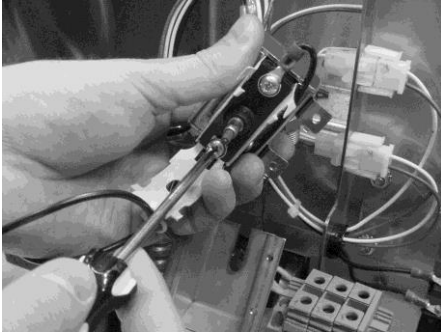

Figure 2-66
4. Pull back cardboard cover and remove the two electrical wires from the high temperature limit control. Figure 2-66.